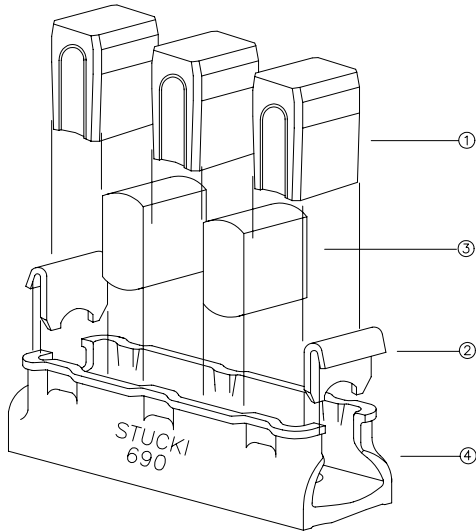

Figure 1. 690-RL Components
The Stucki model 690-RL is a non-metal capped constant contact standard travel side bearing. The 690-RL side bearing\* consists of ① three RB-17 resilient blocks, ② two hardened steel cage end-closures, ③ two 4" x 2" rockers and ④ one 690 side bearing cage. The 690-RL components shown in Figure 1 should not be assembled into any other side bearing housing unless specifically approved by A. Stucki Company.
#### VI. INSTALLATION OF COMPONENTS INTO CAGE (see Figure 1)
1. Insert the end closures ② into place
2. Position the three resilient blocks ① and two steel rocker elements ③ as indicated in Figure 1.